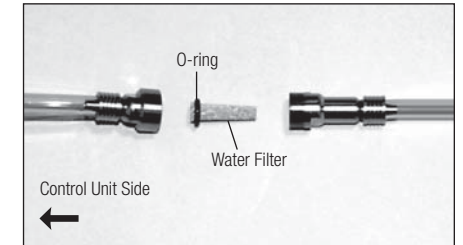

Fig. 34
- 2) When the Water Filter case is separated, the Water Filter can be removed as shown in Fig. 34.
Assemble the Water Filter in the correct direction as shown in Fig. 34.